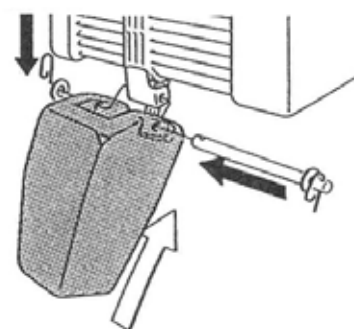

fig.152
21. Fit the chain box onto the hoist attachment, insert the supplied pin and the cotter pin. (fig.152)